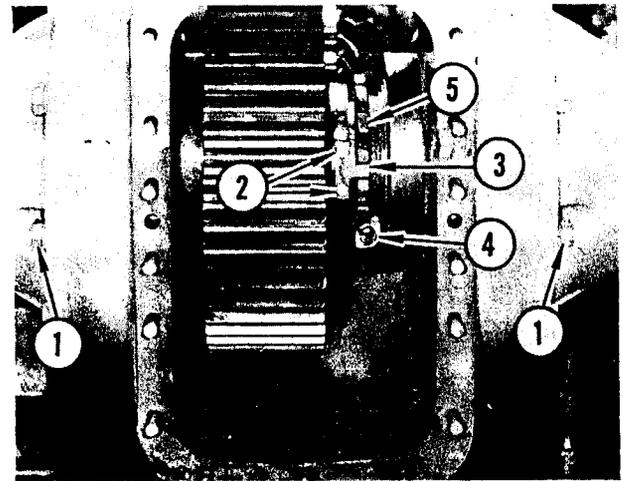

FIGURE 95. AXLE CARRIER REMOVAL
Refer to Figure 95. Remove seven capscrews and lockwashers (1) from both R. H. and L. H. outer axle carriers. Cut locking wire from the two drilled head capscrews (2). Remove capscrews and lockplate (3). Cut locking wire from clamp bolt (4). Loosen clamp bolt. Using a spanner wrench, back up adjusting nut (5) until it is against bull gear hub.